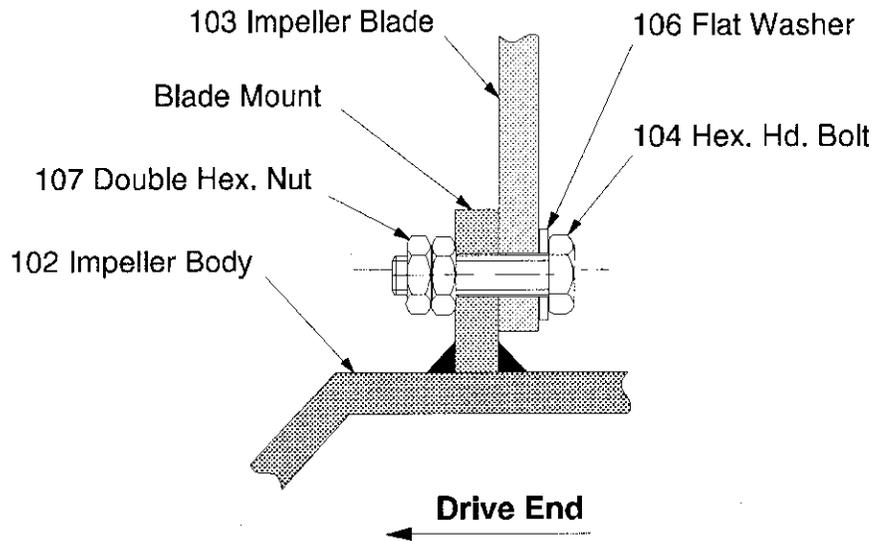

Figure 14: Removable Blades Maxflo Mark III Impeller
1. Assemble Impeller blades (103) to the front (the side away from the drive) of matching blade mount as shown in *Figure 14*.
2. Insert bolts (104) and flat washers (106) starting with the center location and work outward, alternating sides, with remaining fasteners. Tighten the first nut to the full recommended torque value, *Table 13, page 81*.